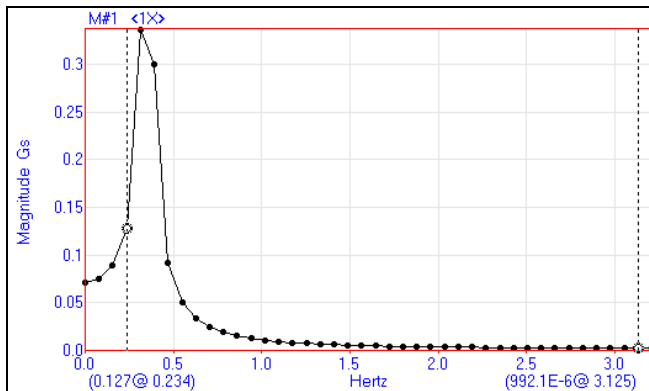

Figure 16. Band Cursors Surrounding Peak.
- Zoom in and set up the Band Cursors around the peak, as shown in Figure 16.